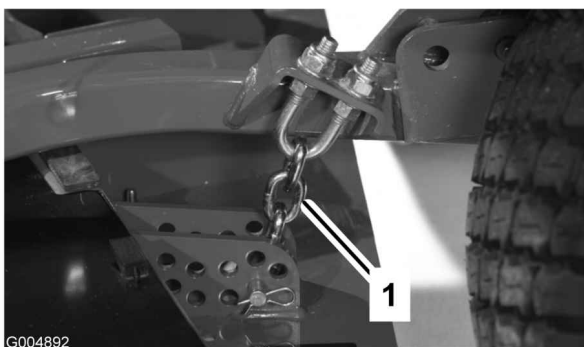

Figure 81
3. Remove the hairpin cotter and clevis pin securing the height-of-cut chains to the rear of the cutting unit (Figure 81).